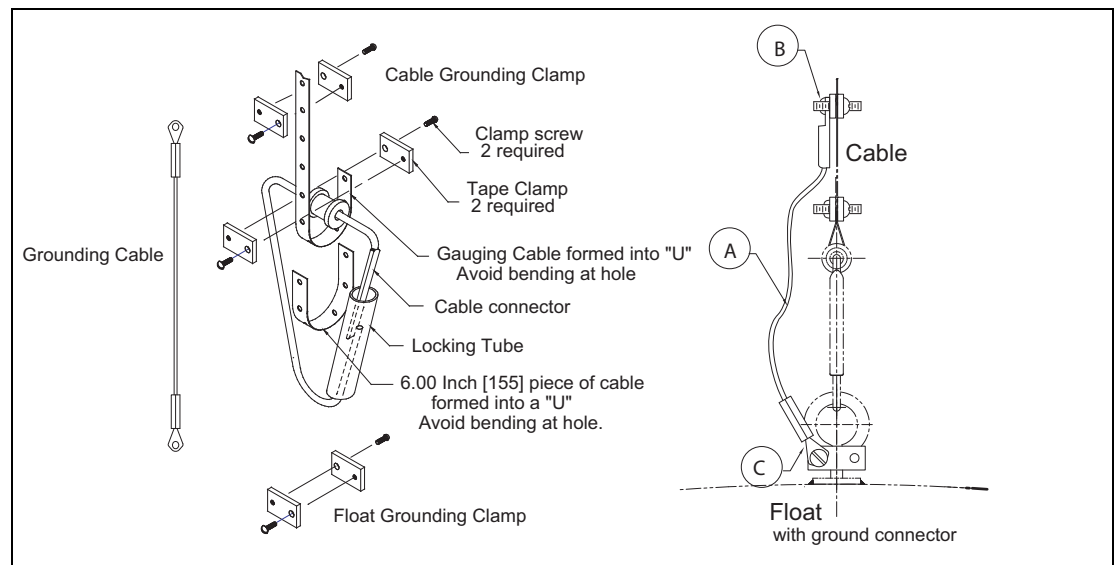

Figure 3-10: Tape Clamp Assembly with Grounding Cable
6. Attach the cable to the float with the furnished fastener and ground cable (Figure 3-10).
6. Install the gauge tape and 'U' piece to the tape connector with the tape clamps and screws provided (Figure 3-10 on page 45).
8. Connect the grounding cable (A) to the tape connector (point B).
10. Connect the grounding cable (A) to the float (point C).